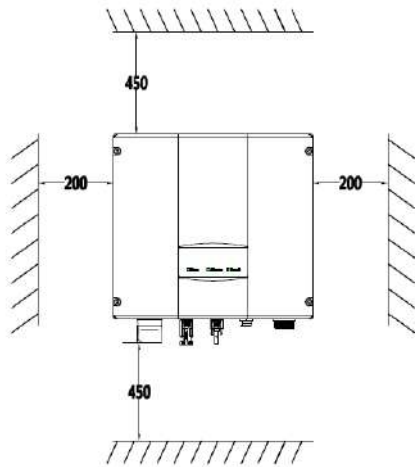
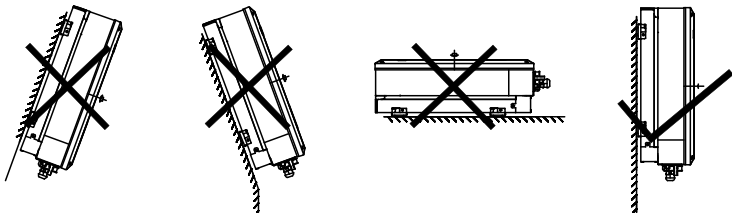

Figure 4.2 Installation space
Figure 4.3 Installation position
- (1) The height of the installation position should ensure that the line of sight is at the same level as the LCD for viewing the parameters of inverter conveniently.
- (2) Select a well ventilated place sheltered from direct sun radiation and rain.
- (3) Allow sufficient space around the inverter to enable easy installation and removal from the mounting surface and air convection. Refer to Figure 4.2.
- (4) The ambient temperature of installation should be -25°C~60°C
- (5) The installation site should be away from electronic devices which can generate strong electromagnetic interference.
- (6) The inverter needs to be installed on a firm and sturdy surface, such as wall and metal bracket and so on.
- (7) The installation surface should be perpendicular to the horizontal line. Refer to Figure 4.3.
- (8) The installation should ensure that the inverter is reliably grounded, and the material of grounded metal conductor should be consistent with the metal material reserved for the grounding of the inverter.